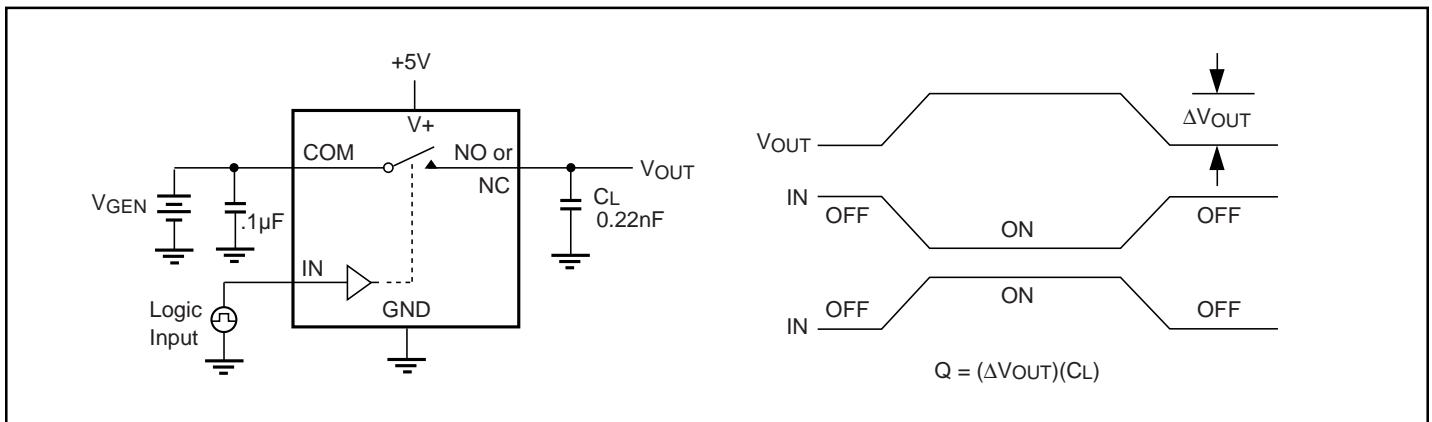

Figure 2. Charge Injection
| Charge Injection (3) | Q                     |   | C L = 1nF, V GEN = 0V,R GEN = 0 ohm, Figure 2 | 25                  |                     | 1.5                 | 5     | pC |
| Charge Injection (3)                        | Q                     | C L = 1nF, V GEN = 0V,R GEN = 0V, Figure 2         | 25        |                     | 1.3                 | 5                   | pC    |  |
| Charge Injection (3)                        | Q                     | C L = 1nF, V GEN = 0V,R GEN = 0V, Figure 2         | 25        |                     | 0.9                 | 5                   | pC    |